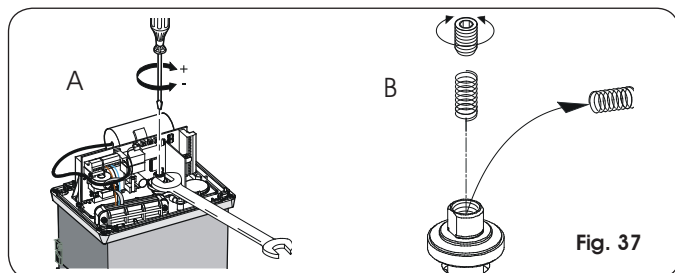

Fig. 37
2. Keep the motor shaft locked with a wrench and turn the clutch adjustment screw with an Allen wrench or screwdriver as shown in Fig. 37 Ref. A.
➔ **The operator is supplied as standard with a clutch adjustment spring for gates up to 2200 lbs. For heavier gates, use the supplied alternative spring. For spring replacement instructions, see Fig. 37 Ref. B.**